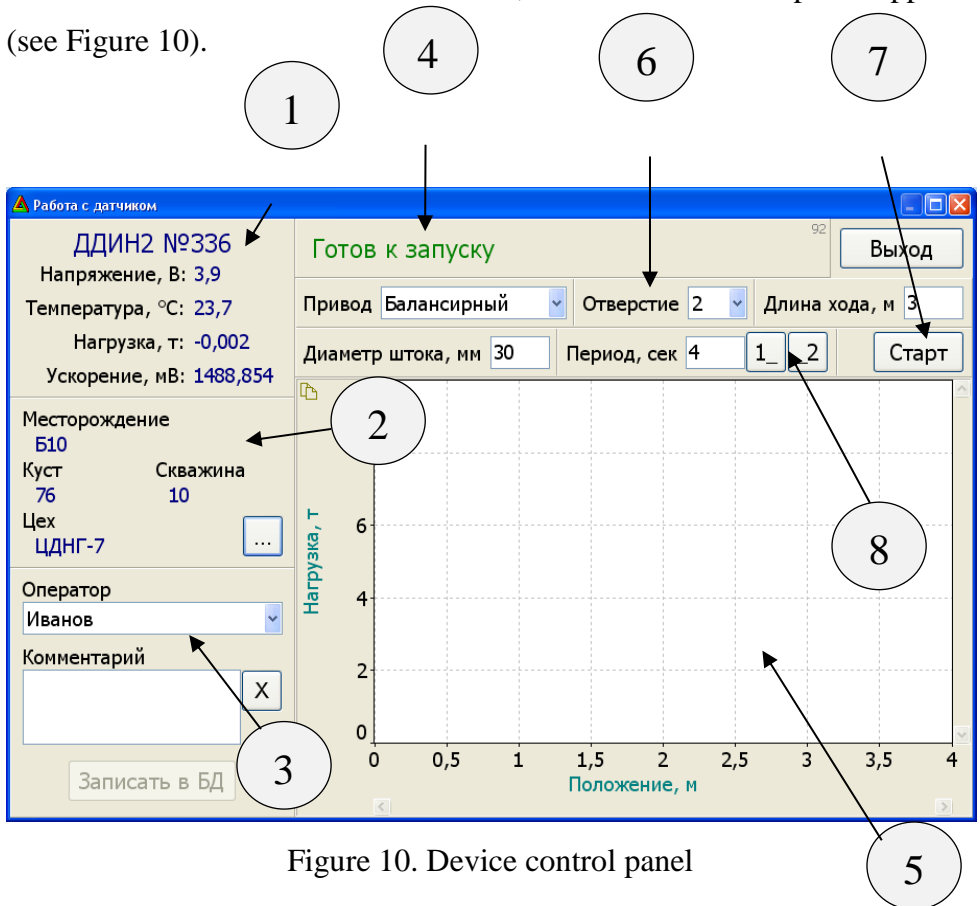

Figure 10. Device control panel
If the connection is successful, the device control panel appears (see Figure 10).
- Check and, if necessary, change the details of the well (p.2 Fig. 10).
- Specify the operator, select the type of survey and enter the explanations (p.3 Figure 10).
- Specify pump setting parameters (p.6 Figure 10).
- Make sure that the device is in the "Ready to start" state (p.4 Figure 10) and press the "Start" button (p.7 Figure 10).
- After calculation the resulting dynamogram will be displayed (p.5 Figure 10).